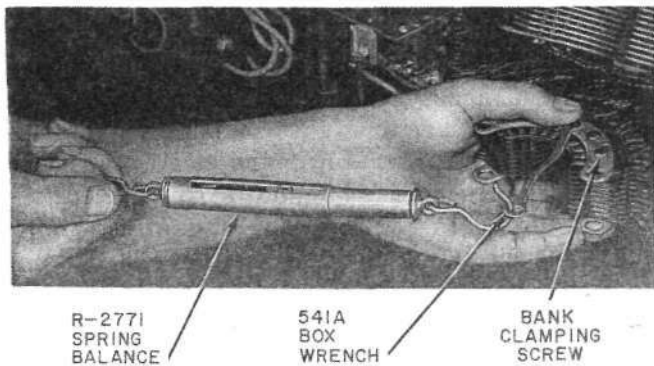

Fig. 5—Method of **Checking Tightness** of Bank Clamping **Screws** on **Mechanized Bank**
**4.01** Tighten the bank clamping screws to minimum 16, maximum 18 pound-inches torque. Tighten the screws successively to obtain an approximately even distribution of pressure on the clamping plate. To check the torque, apply the 541A wrench on the head of the clamping screw and insert the hook of the R-2771 spring balance in the hole at the free end of the wrench as shown in Fig. 5. If this check is made with the switch mounted on the shelf, take care that the wrench does not slip from the head of the screw during the tightening operation since this might cause damage to the wipers or the shaft. A pull of 4-1/2 to 5 pounds (in the direction to tighten the screw) without moving the screw is an indication that the screw has been satisfactorily tightened. A 79F gauge may be used instead of the R-2771 spring balance. In this case, loop a piece of 6-ply twine through the hole at the free end of the wrench and apply the gauge to this loop. A pull of 2050 to 2275 grams (in the direction to tighten the screw) without moving the screw indicates that the screw has been satisfactorily tightened.